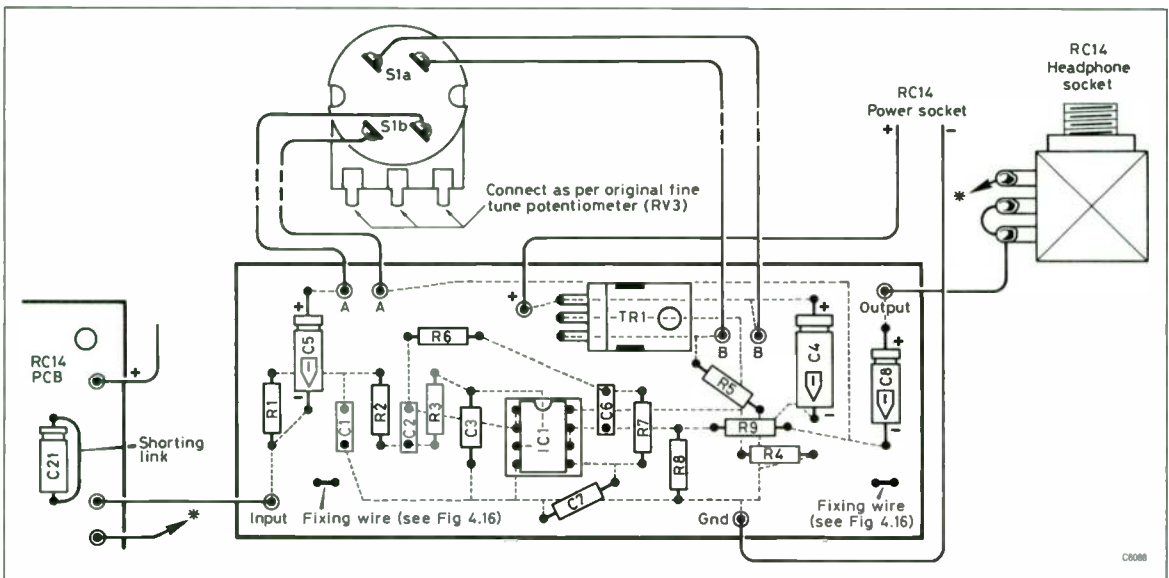
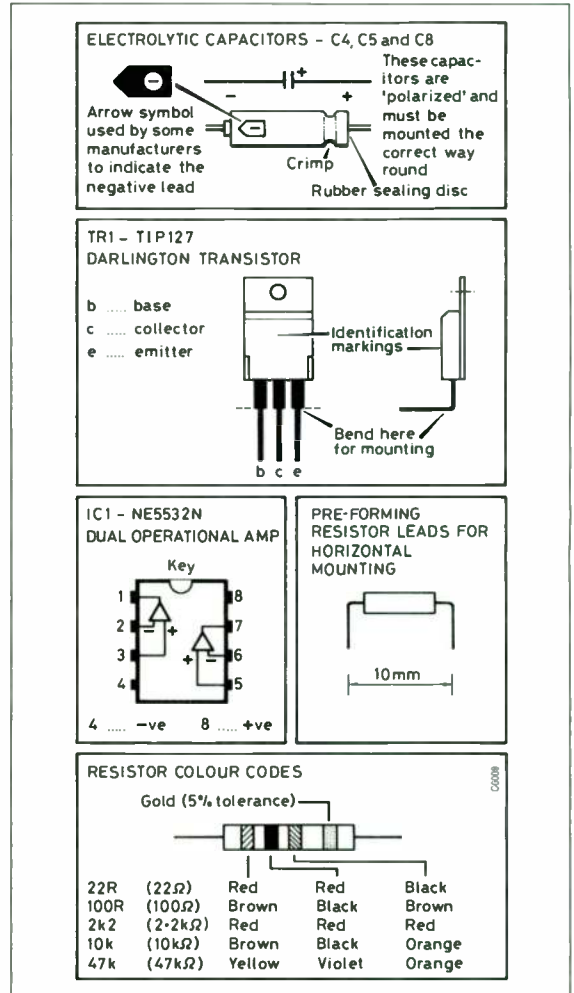
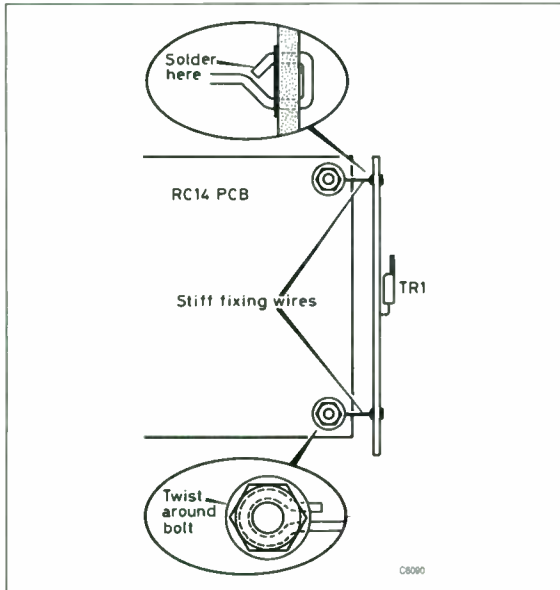

Fig 4.14. The locations of the components on the printed circuit board. Also shown are the off-board connections
Fig 4.15. Component identification and pre-forming of leads
Fig 4.16. The CW filter circuit board is positioned vertically and to the right of the RC14 PCB
Very few tools will be required for this project. A 15–25W shouldering iron having a bit diameter of no more than 1.5mm, a pair of wire cutters, a small pair of long-nosed pliers and a screwdriver should suffice. Fig 4.14 features the circuit board layout and Fig 4.15 will help with the identification and preparation of components prior to mounting. A socket is provided for IC1 and this should be soldered in place first – do not insert IC1 at this stage. The resistors and capacitors except the three polyester types (C1, 2 and 6) are mounted horizontally – this will necessitate bending their leads. The polyester types, which may be coloured red, will simply drop into place. The polystyrene capacitors (C3 and C7) have translucent mouldings. Only the electrolytic capacitors (C4, 5 and 8) require mounting a certain way round – Fig 4.14 helps in identifying their leads. Now mount TR1, remembering to bend all three leads as shown in Fig 4.15 first.
It is the marked (front) face of TR1 which rests against the circuit board – see Fig 4.16 for clarification.
Pairs of flying leads approximately 250mm in length are now soldered between pads AA and BB and the appropriate contacts of S1 (Fig 4.14). It will be a good idea to shorten the control spindle in preparation for final fixing before you solder the flying leads onto S1. Also solder red and black cables to the +VE and ground pads and a single lead to the output pad. Before fitting
- C21, the RC14 output coupling capacitor, must be shorted out. Simply solder a length of tinned copper wire (eg an off-cut from one of the filter components) across C21. Fig 4.14 shows this modification clearly. If the filter is being built at the same time as the RC14, C21 may be omitted and the shorting link installed on the board.
The CW filter circuit board is mounted vertically to the right of the RC14 PCB – ie between the AF gain potentiometer (RV1) and the headphone socket. Fig 4.16 shows how this is achieved. Two short lengths of fairly stiff, tinned wire are soldered to the isolated double-hole pads on the filter PCB. These fixing wires are then clamped around the mounting bolts at the edge of the RC14 PCB – the use of washers above the wires will help here. Extra nuts are not required – simply use the existing ones. Prior to mounting the filter board, complete the wiring as shown in Fig 4.14. Desolder the RC14 audio output lead from the headphone socket and resolder it to the filter input pad. The filter output lead should now be soldered to the headphone socket. The other connections are shown well enough by Fig 4.14 alone, but remember to wire the new FINE TUNE potentiometer exactly as the original (RV3).
- Having satisfied yourself that everything is OK, disconnect the power supply and allow about 30 seconds for the larger capacitors to discharge. Now insert IC1 and reconnect the supply. Check that IC1 is inserted the correct way round – look for the notch in its encapsulation and compare this with Fig 4.14. With the FINE TUNE control pulled *out*, locate a reasonably strong and stable CW transmission. Tune the signal to give a fairly low-pitched tone (if you are a musician, attempt to obtain a note near E above standard A-440) and then push the FINE TUNE *in* to activate the CW filter. You should still be able to hear the morse, but if it sounds quieter try carefully adjusting the FINE TUNE so as to bring the signal properly within the CW filter pass band.